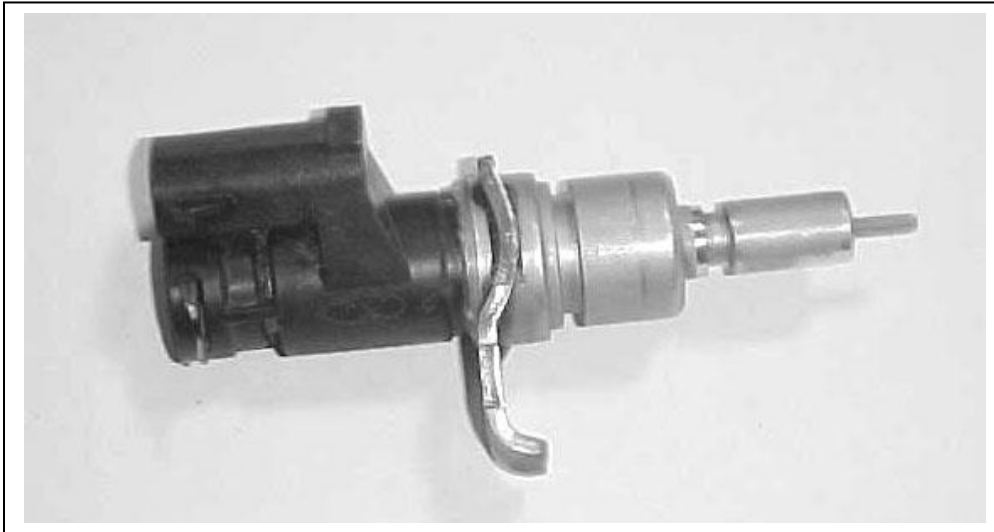

Figure 6.15 VSS Vehicle Speed Sensor
- B.** If you ARE using the VSS, route the 2-position connector to the transmission and attach it to the sensor, **Figure 6.15**.